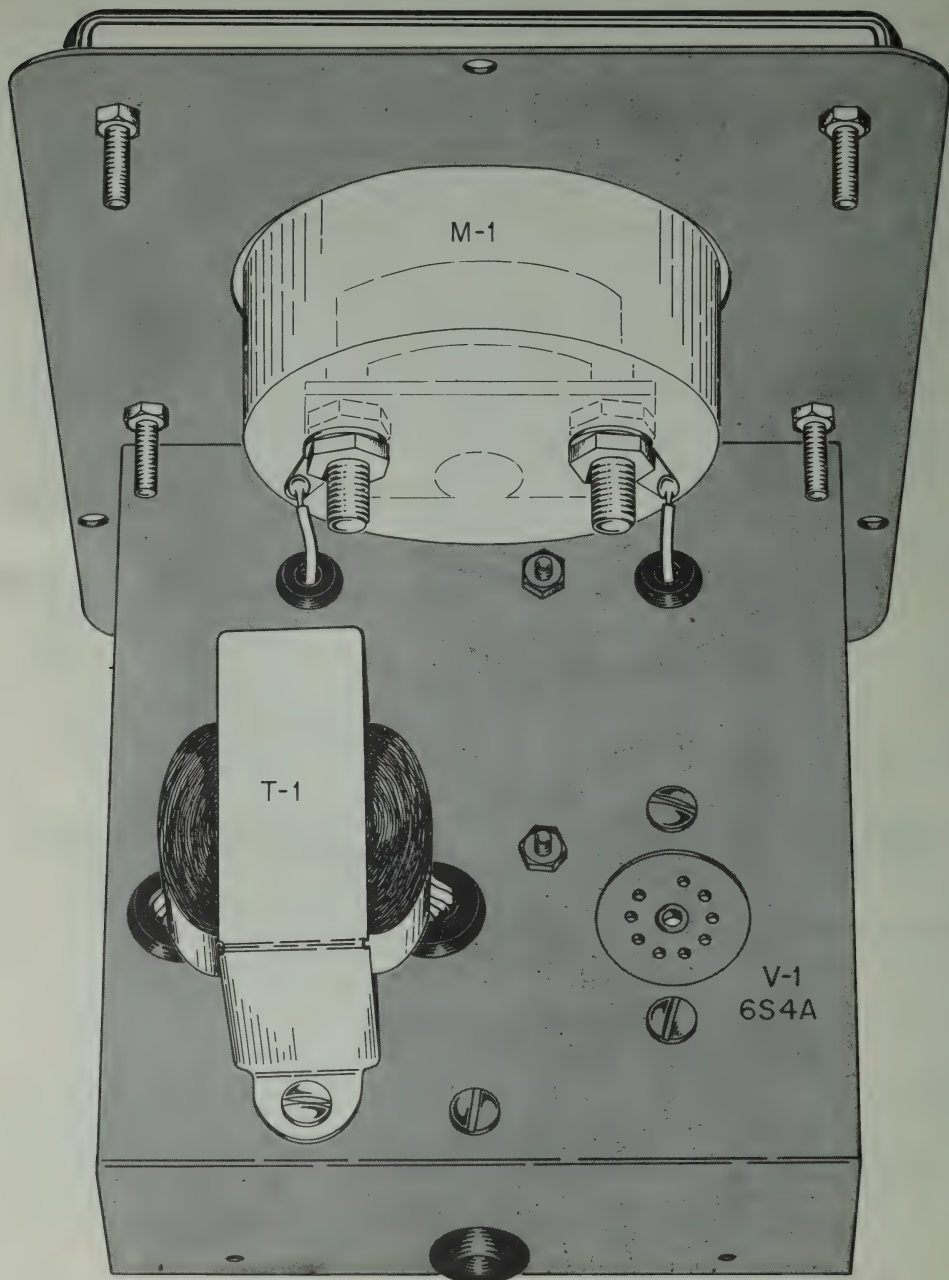

FIGURE 9. TOP OF CHASSIS VIEW
- ☐ From the top of the chassis, push the four leads of T-1 (two red and two green) through the large grommet. Push the two black leads through the medium size grommet. Put a screw through the mounting tab nearest the front panel and through the chassis. On the inside of the chassis, mount TS-3, a two-terminal strip, on this screw and fasten it with a nut. Put a screw through the other mounting tab and fasten a solder lug inside the chassis with a nut. Figure 9 shows the position of T-1 on top of the chassis.
### SEE FIGURE 9.